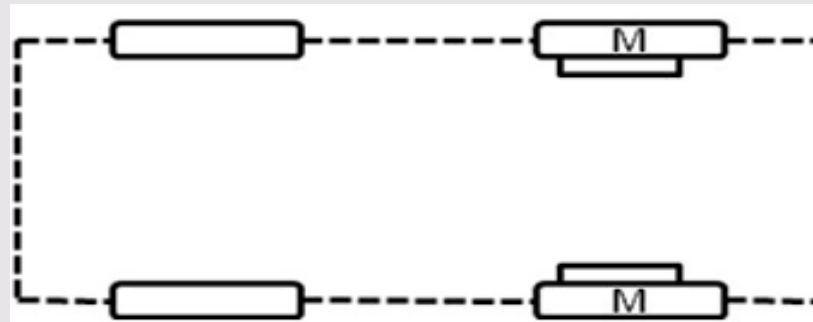

Figure 3f: EV configuration with two EM
- In Figure 3f an EV configuration without any mechanical gearing is shown. By fully abandoning any mechanical gearing, the in-wheel drive can be realized by installing a low speed outer-rotor electric motor inside a wheel.